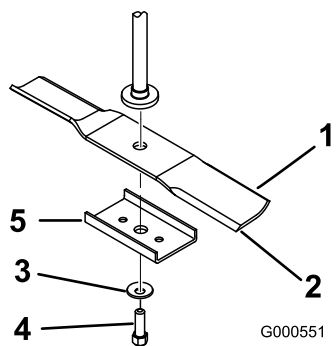
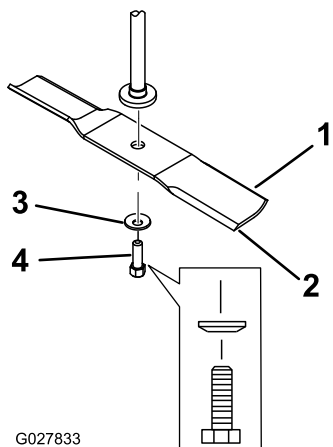

Figure 53
Figure 54
2. Remove the blade stiffener (32-inch decks only), blade bolt, the curved washer, and the blade from the spindle shaft (Figure 53 and Figure 54).
1. Install the blade onto the spindle shaft (Figure 54).
2. Install the blade stiffener (32-inch decks only), curved washer (cupped side toward the blade), and blade bolt (Figure 54).